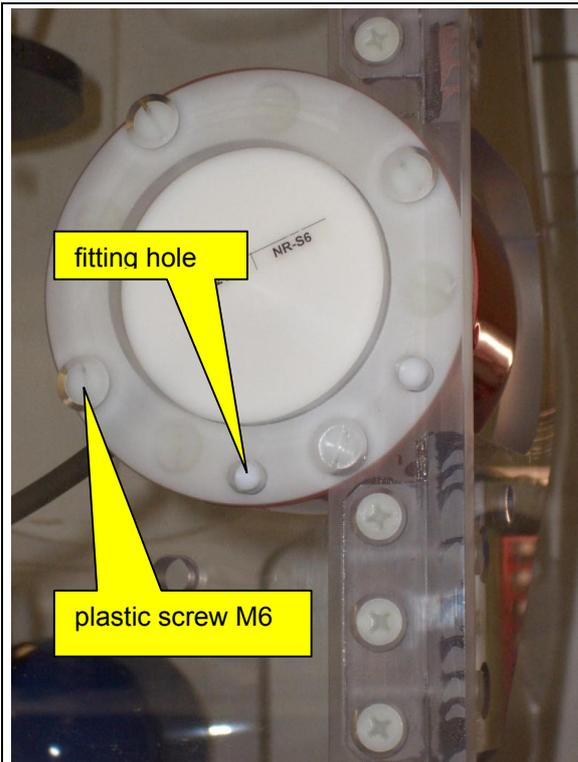

Figure 4: four screws hold the transmitter
- remove the four plastic screws (Figure 4) while holding the transmitter with the other hand